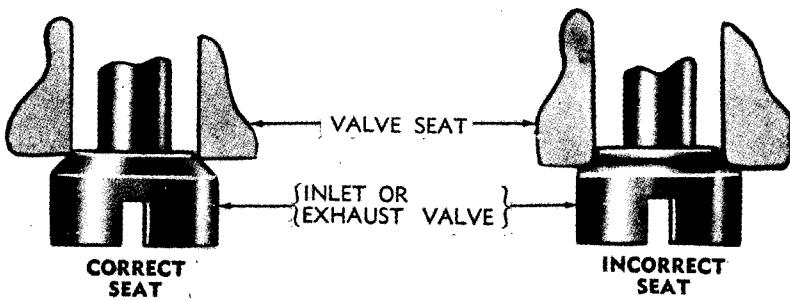

Figure 80. *Correct and incorrect valve seats.*
- (3) *Cover.* Inspect cover for cracks or breaks and, if any are found, replace. Check fit of plunger in plunger bushing. Plunger must be a sliding fit. Replace bushing, if plunger is not a sliding fit.
- (4) *Body.* Inspect body for breaks, cracks, or other damage. Also check diaphragm seat for dents or pitting. Replace body, if damaged in any way.
- (5) *Pressure-regulating spring assembly.* The pressure-regulating spring assembly is adjusted and set for preloading the brake valves and special scales are necessary to make this setting. Make no adjustment to this assembly. If visual inspection shows wear or damage, replace the complete assembly.
- (6) *Rocker arm.* Check to be sure rocker arm is not bent. Bottom of rocker arm must be smooth and flat (at points where it contacts the inlet and exhaust valves). Straighten or replace, as necessary.
- (7) *Inlet valve assembly.* Inspect inlet valve and seat (fig. 80) for scoring, pitting, and wear. Valve must be a sliding fit in bore of valve seat. If valve or seat is rounded, pitted, worn, or scored follow procedure prescribed in c(3) below.
(8) *Exhaust valve assembly.* Inspect exhaust valve and valve seat (fig. 80) for scoring, pitting, or wear. If valve or seat is rounded, pitted, or scored follow procedure prescribed in c(4) below.